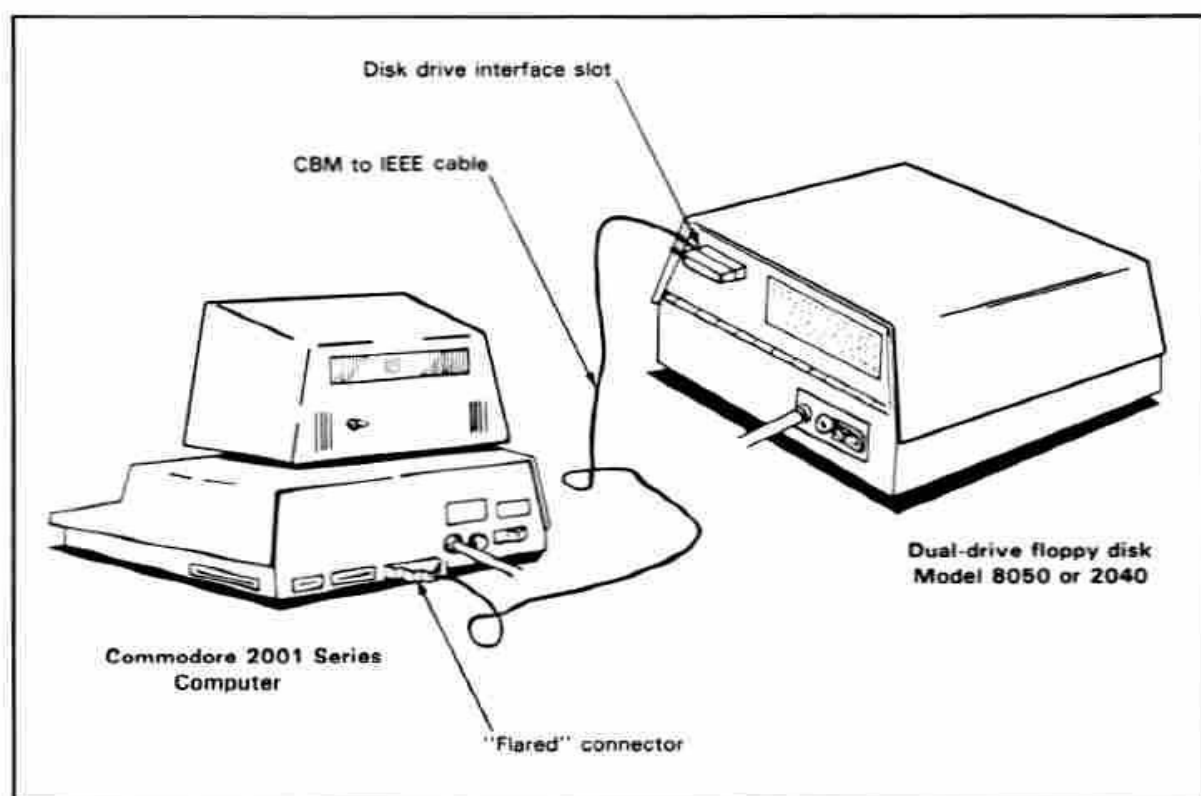

Figure 1-21. CBM-Floppy Disk Drive Connection
2. Using a CBM to IEEE cable, plug the small end into the interface slot on the upper left rear panel of the disk drive (see Figure 1-21). Secure the connector by turning the two screws clockwise until tight.
3. Gently push the "flared" connector into the center interface slot (J1 in Figure 1-5) on the back of the CBM console. Make sure the connector side with "Commodore" stamped on it is facing up. The hookup should look like Figure 1-21.